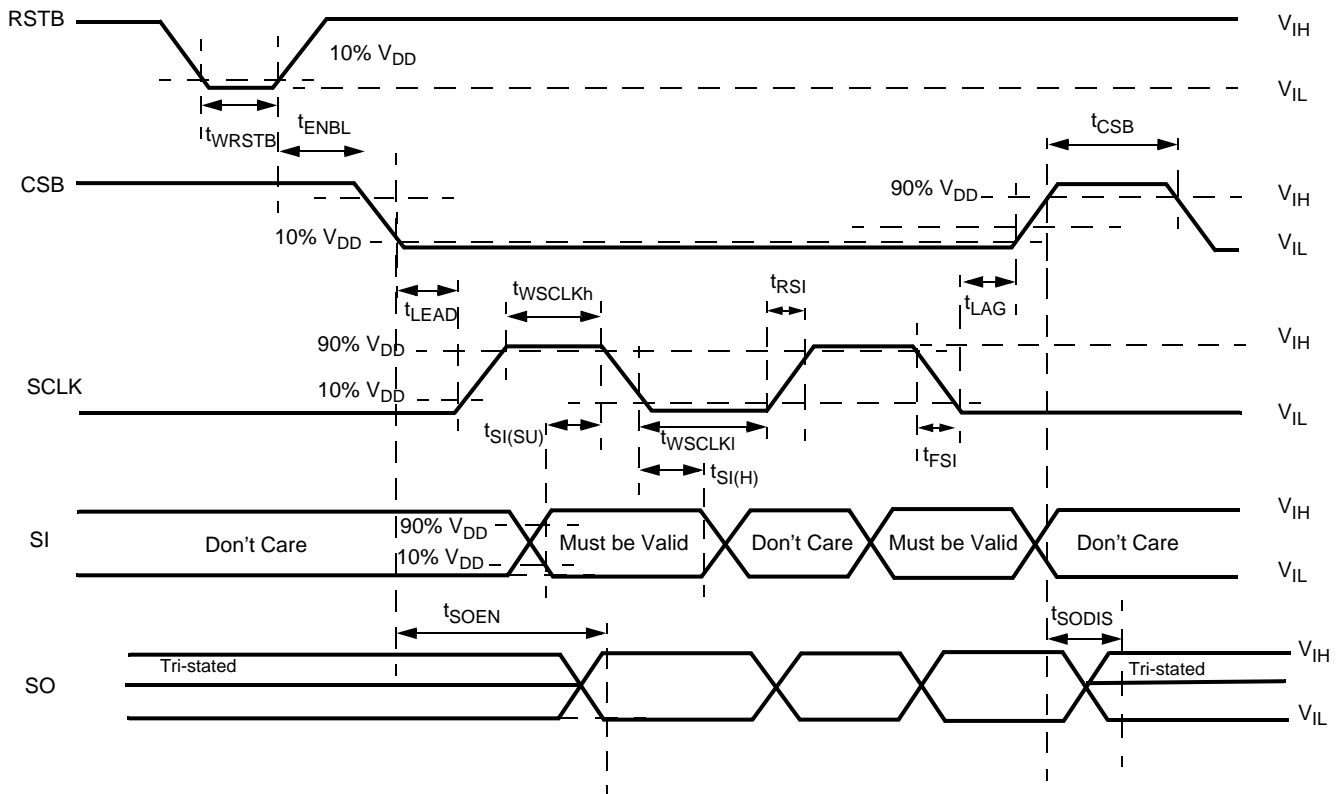
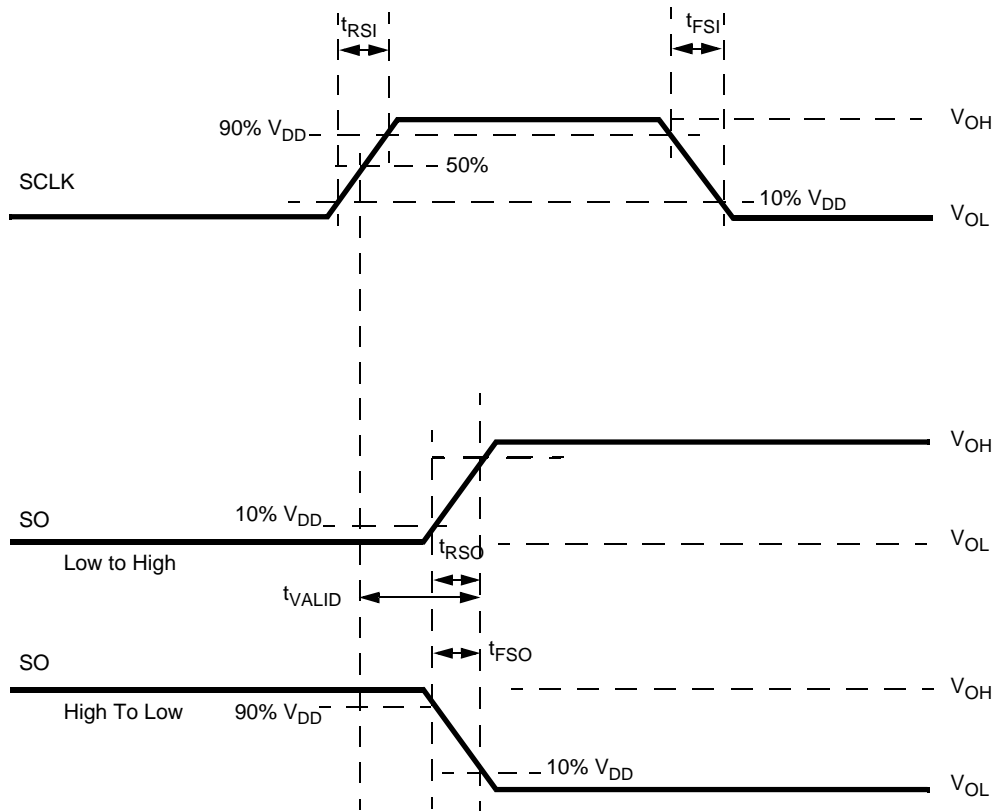

Figure 7. Timing Requirements During SPI Communication
Figure 8. Timing Diagram for Serial Output (SO) Data Communication
31. Time required to switch off the channel after detection of over-temperature (OT), over-current (OC), SC or UV error (time measured between start of the negative edge on the FSB pin and the falling edge on the output voltage until $V(\text{HS}[0:1]) = 50\%$ of V_{PWR}).
32. Settling time ($= t_{CSNSVAL_XX}$), SYNC output signal delay ($= t_{SYNCVAL_XX}$) and Read-out delay ($= t_{SYNREAD_XX}$) are defined for a stepped load current ($100\text{ mA} < I(\text{LOAD}) < I(\text{OCLX A FOR CSNS_RATIO_S} = 1, \text{ AND } 300\text{ mA} < I(\text{LOAD}) < I(\text{OCLX A}_0 \text{ FOR CSNS_RATIO_S} = 0)$). (see Figure 8 and Output Current Monitoring \(CSNS\))
The CS pin allows independent current monitoring of channel 0 or channel 1 up to the steady-state over-current threshold. It can also be used to sense the device temperature. The different functions are selected by setting bits CSNS1_en and CSNS0_en to the appropriate value (Table 21). When the CSNS pin is sensed during switch-off in the (optional) track & hold mode (see Figure 8), it will output the scaled value of the load current as it was just before turn-Off. When several devices share the same pull-down resistor, the CSNS pins of devices the current of which is not monitored must be tri-stated. This is accomplished by setting CSNS0_en = 0 and CSNS1_en = 0 in the GCR register (Table 9). Settling time ($t_{CSNSVAL_XX}$) is defined as the time between the instant at the middle of the output voltage's rising edge ($HS[0:1] = 50\%$ of V_{PWR}), and the instant at which the voltage on the CSNS-pin has settled to $\pm 5.0\%$ of its final value. Anytime an over-current window is active, the CSNS pin is disabled (see Over-current Detection on Resistive and Inductive Loads). The current and temperature sensing functions are unavailable in Fail-safe mode and in Normal mode when operating without the V_{DD} supply voltage. In order to generate a voltage output, a pull-down resistor is required ($R(CSNS) = 1.0$ k Ω typ. and $470 < R(CSNS) < 10$ k). When the current sense resistor connected to the CSNS pin is disconnected, the CSNS voltage is clamped to $V_{CL(CSNS)}$. The CSNS pin can source currents up to about 5.6 mA.
Data communication over the SPI port is enabled when the CSB pin is in the logic [0] state. Data from the Input Shift registers are locked in the addressed SI registers on the rising edge of CSB. The device transfers the contents of one of the eight internal registers to the SO register on the falling edge of CSB. The SO output driver is enabled when CSB is logic [0]. CSB should transition from a logic [1] to a logic [0] state only when SCLK is at logic [0] (Figure 7 and Figure 8). CSB is internally pulled up to V_{DD} through I_{UP} .
Serial input (SI) data bits are shifted in at this pin. SI data is read on the falling edge of SCLK. 16-bit data packages are required on the SI pin (see Figure 7), starting with bit D15 (MSB) and ending with D0 (LSB). All the internal device registers are addressed and controlled by a 4-bit address (D9-D12) described in Table 13. Register addresses and function attribution are described in Table 14. The SI pin is internally connected to a pull-down current source, I_{DWN} .